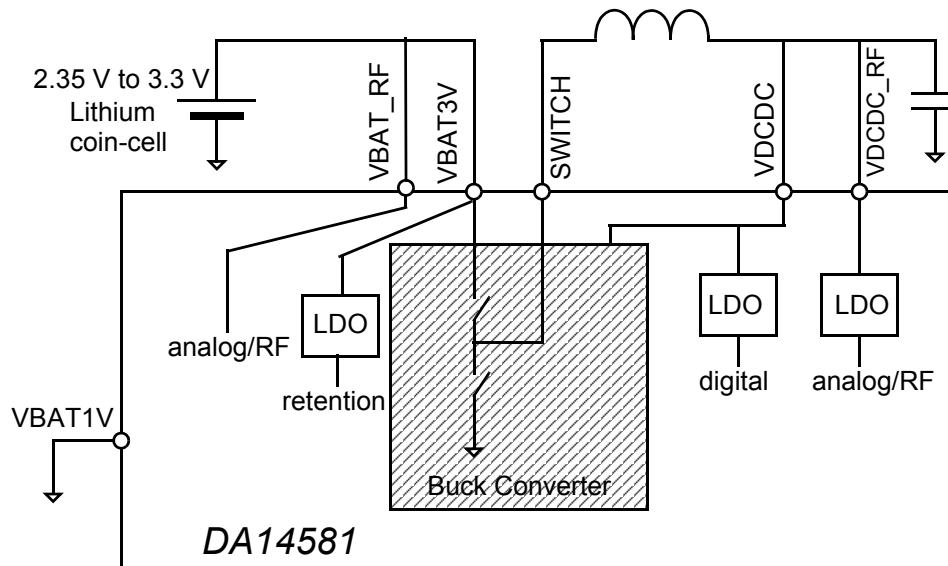
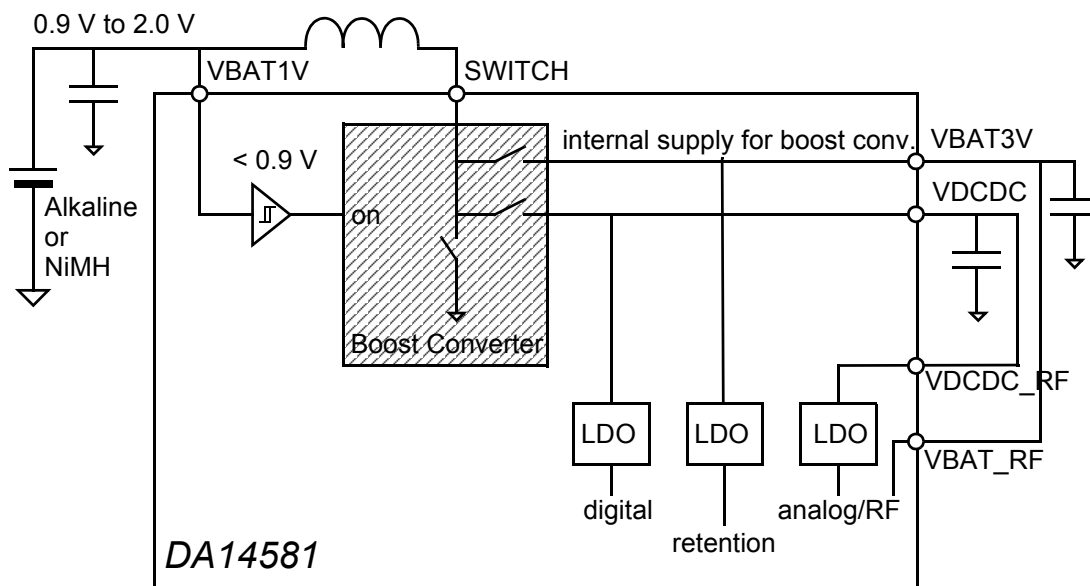

Figure 56: Supply Overview, Coin-Cell Application
Figure 57: Supply Overview, Alkaline-Cell Application
- There are two ways of connecting external batteries to the Power Block of the DA14581. They depend on the specific battery cell used and its voltage range. Battery cells are distinguished into Lithium coin cells (2.35 V to 3.3 V) and Alkaline cells (1.0 V to 1.8 V). The connection diagrams are presented in Figure 57 and Figure 56 respectively: